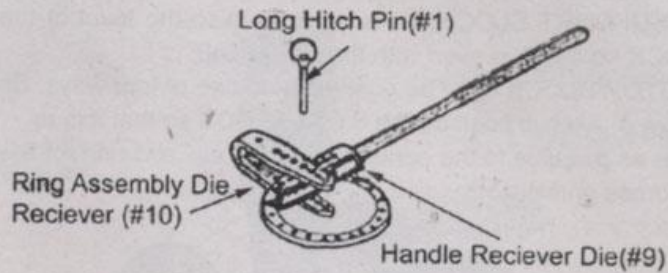

Figure2 - Assembling Handle
Step 5: Place the HANDLE DIE RECEIVER(#9) between the ASSEMBLY SPACER DIE RECEIVER and secure in place using the LONG HITCH PIN(#1) as shown in Figure2